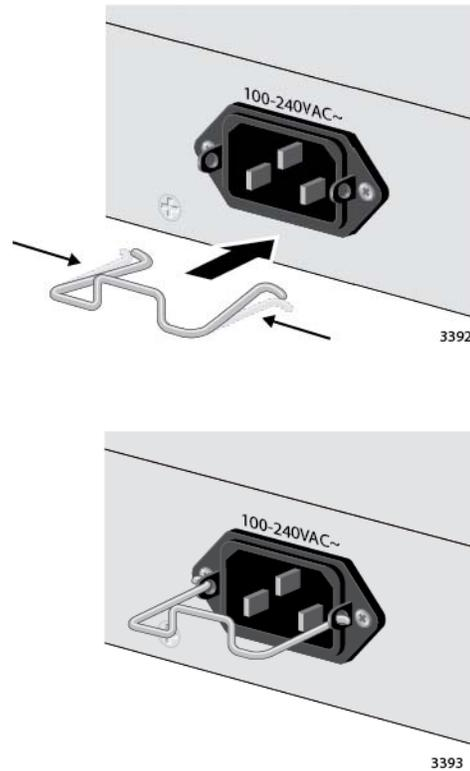

Figure 45. Installing the Retaining Clip
1. To install the power cord retaining clip, position it with the “u” part facing down, press in the sides, and insert the ends of the clip into the holes in the retaining bracket on the AC connector. Refer to Figure 45.